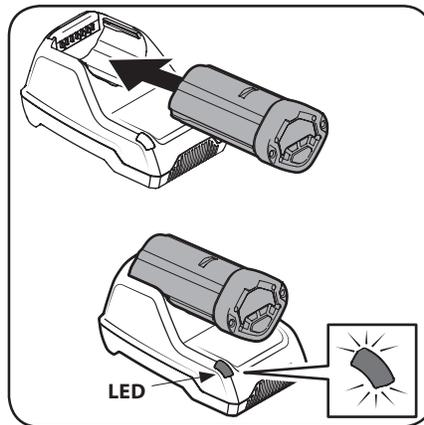

Figure 2-6
2. Insert the battery into the charging dock. The LED should illuminate. See Figure 2-6.